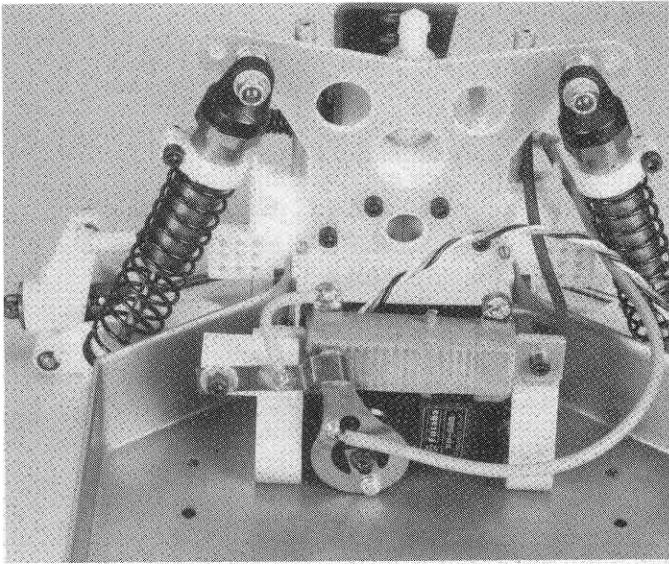

Fig. 137
□ **Fig. 137** This is the full power position of the wiper arm. It should be directly behind the bypass button and in the center of the wide band on the resistor.
shown if photo for fig. 136. Pull the throttle all the way open. The wiper arm now should be exactly as shown in photo for fig. 137. If everything is fine, you can release the throttle arm. We now need to check the brake operation. Move the throttle arm to the full brake position. Make sure that the wiper arm does not drop off of the resistor. If it does then refer to the radio manual on how to correct the problem. Adjustments can be made using the end point and trim control features as in your radio manufacturer's manual. Look at fig. 121. Turn your transmitter steering wheel to the right. Your wheels should turn to the right. If not, you will have to move your throttle servo reversing switch to its other position. Now recheck the steering function as before. Make sure that the servo arm/horn is in the up or vertical position and centered. Now if your wheels are not straight you can adjust the #6256 steering linkage (fig. 121) to correct the problem. You can use the steering trim feature to fine tune the adjustments if necessary.